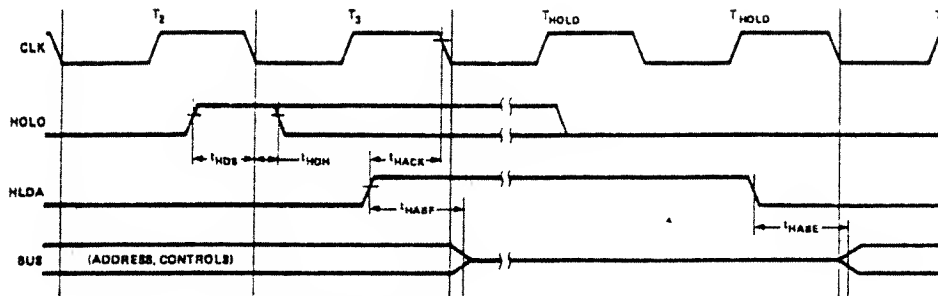

Fig. 7 Hold Timing
*DATA BUS TIMING IS SHOWN IN FIGURE 7.